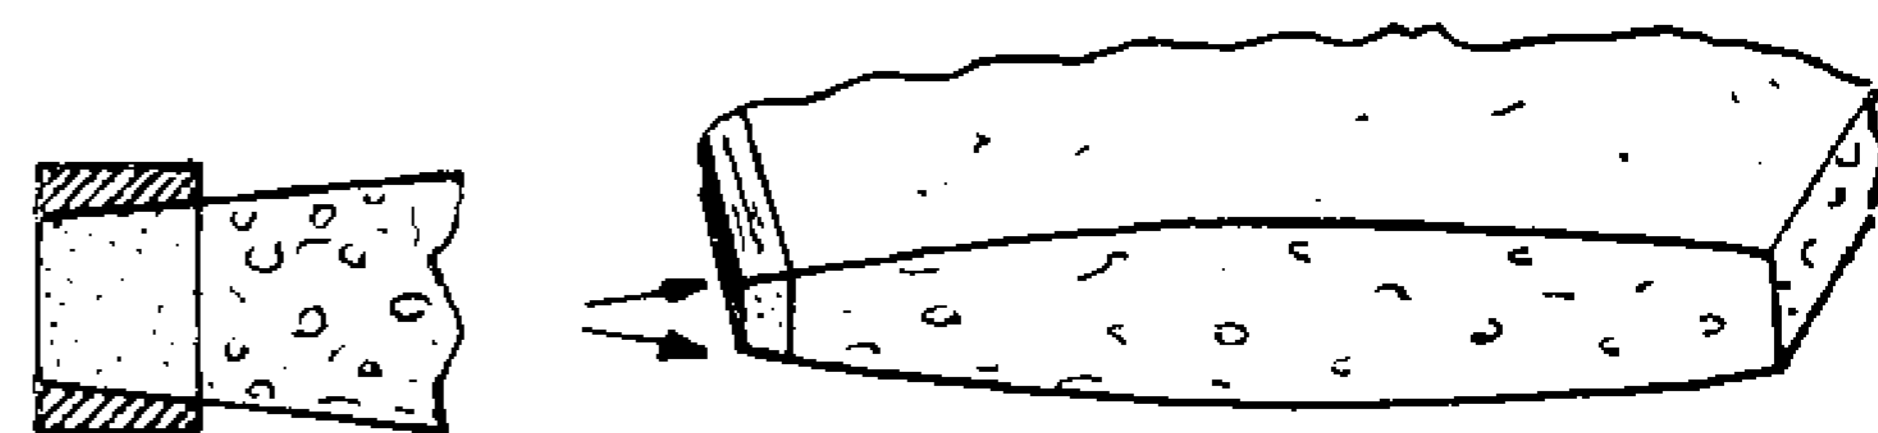
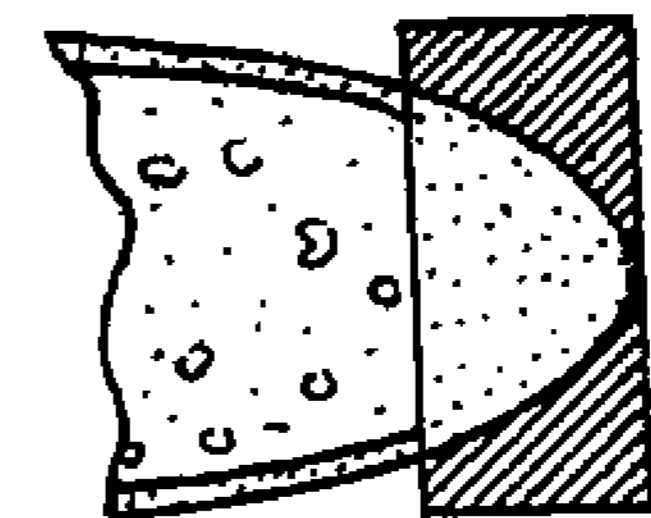

Fig. 5
Fig. 7
5. After the epoxy has cured, shape the trailing edge to the contour of the airfoil with a razor plane and sanding block. See figure 5. NOTE: Always use 80 - 150 grit fresh sandpaper on a block 12" to 18" long for all wing shaping.
10. Epoxy the 3/8" x 1" x 36" balsa leading edge in place and shape as in figure 7.
20. Lay aside the wing and lightly sand the stabilizer cores and vacuum. Weight and align the stab in the foam saddle on the work surface as you did the wing in step 3. Attach the $1/4"$ x $3/8"$ balsa trailing edge and sand to the airfoil contour as in figure 5. Glue $1/16"$ balsa sheeting in place using the procedure described in steps 4 through 11. Epoxy the $3/8"$ x $1/2"$ leading edge in place, and shape as in figure 7.